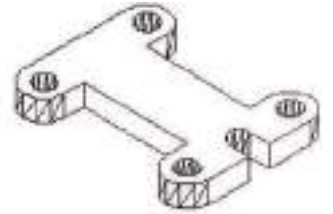

Fig.7
6. Subtract four small cylinders from the model. (Figure 7)